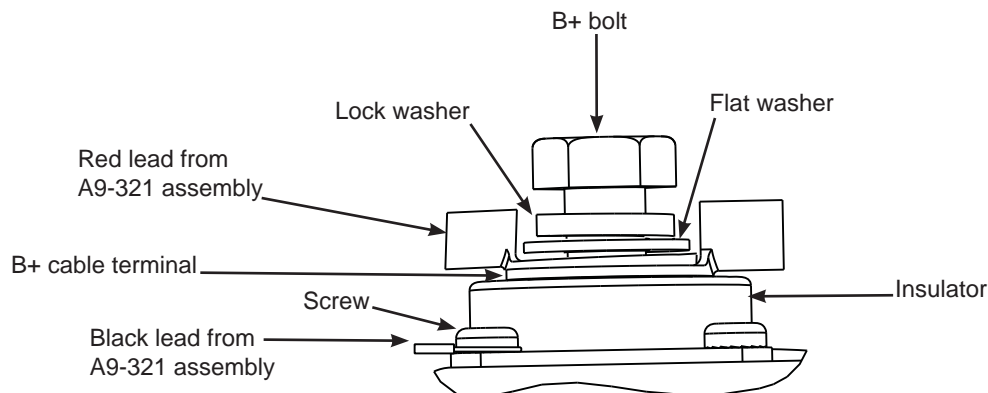

Figure 2 – A9-321 Alternator Voltage Filter Assembly Stacking Order
3. See Figure 2. Connect leads of A9-321 assembly: